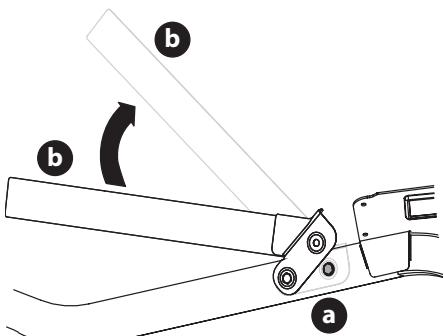

Figure 3
1. Remove the two hex washer screws (a) partially installed on the frame (Figure 3).
2. Rotate the upper hoop (b) into position (Figure 3).